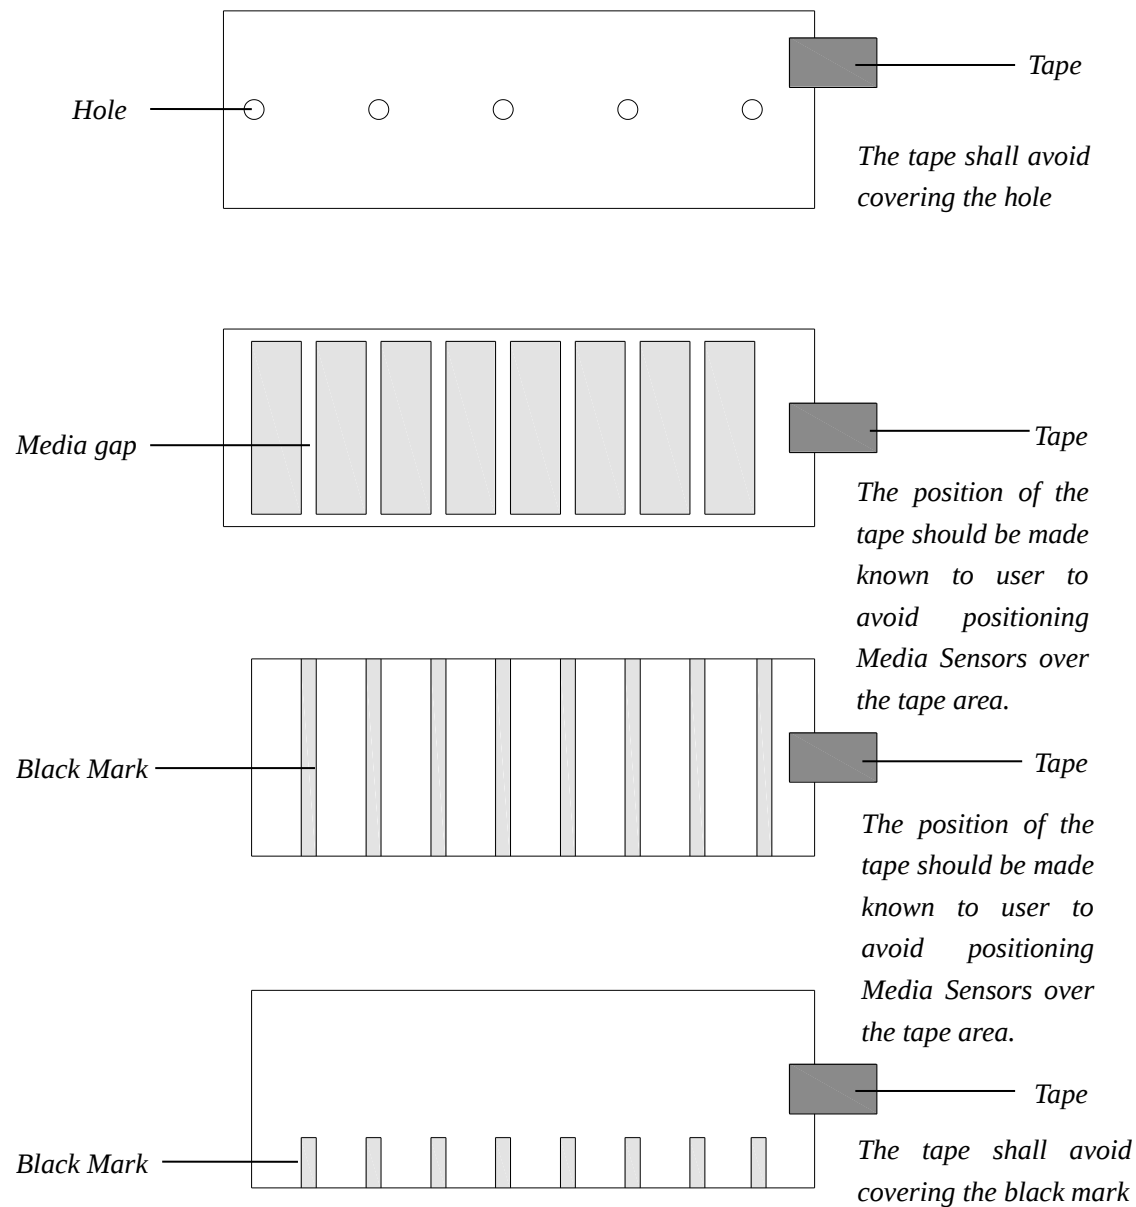

Figure 2-20 End-fixing Tape Position
- When media rolls are produced, the media end would be fixed to the media core by duct tape or scotch tape. If your printer cannot detect Media Out signal well, please refer to Figure 2-20 to check the position of the tape.